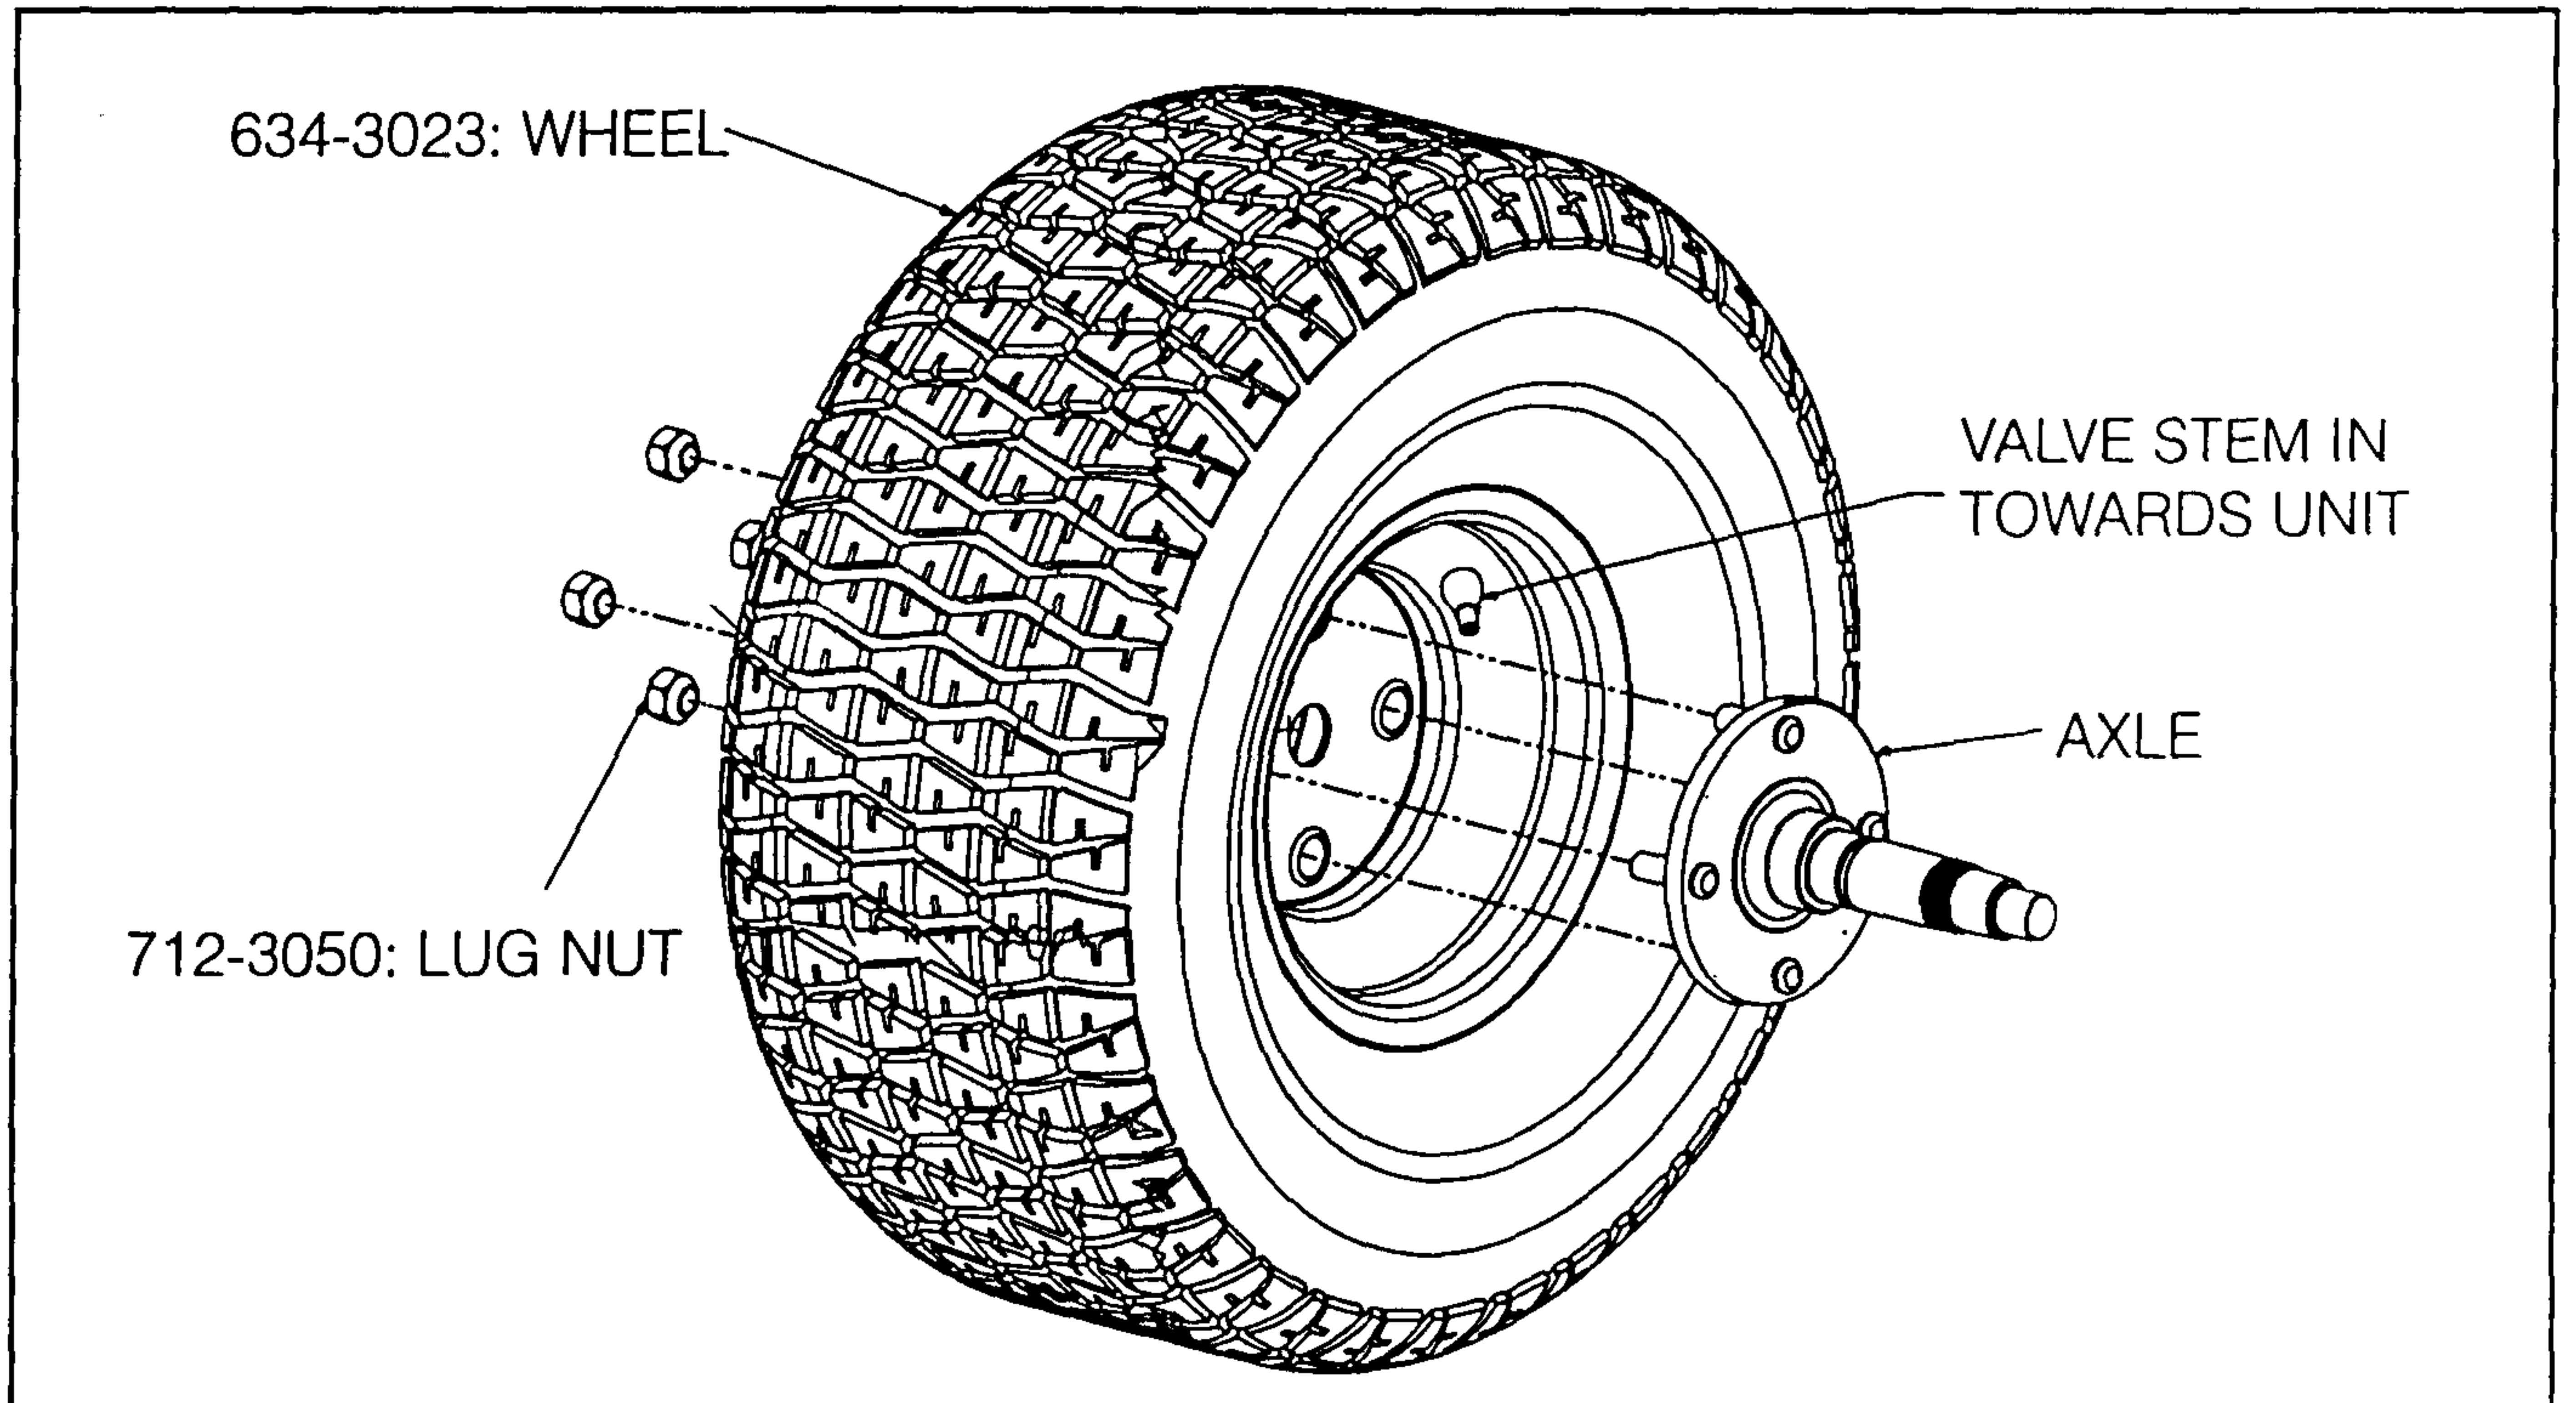

Figure 2
3. Flip both wheels so valve stem is facing in; towards the unit. (See Fig. 2)